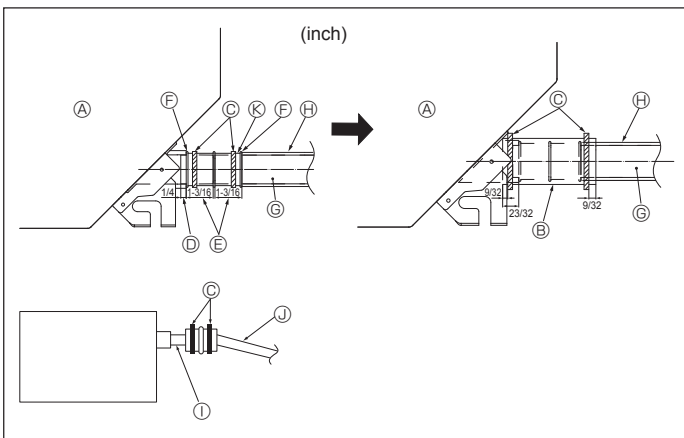

Fig. 4-2
1. Connect the drain socket (supplied with the unit) to the drain port. (Fig. 4-2) (Fix the tube using PVC adhesive then secure it with a band.)